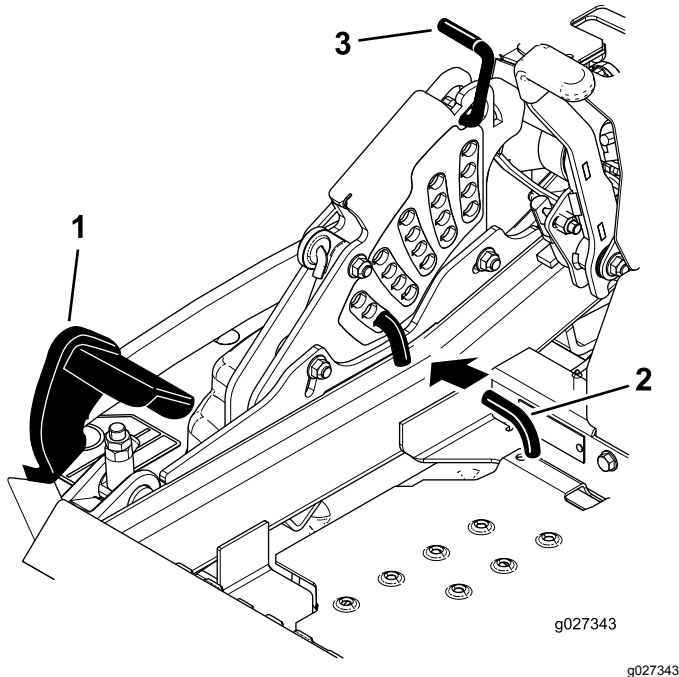

Figure 91
5. Push the deck-lift pedal all the way forward and the deck latches at the 14 cm (5-1/2 inches) transport position (Figure 91).